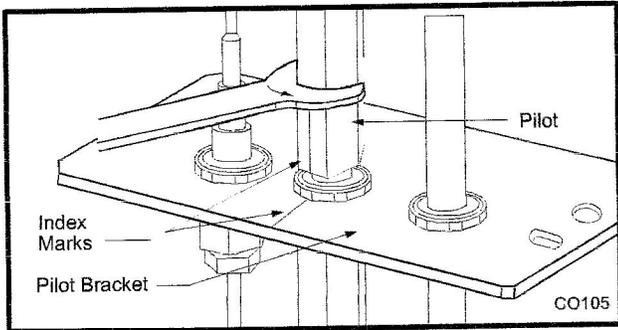

Fig. 53 Remove pilot hood. (Your pilot may have a different appearance.)
- Loosen pilot hood turning counterclockwise using a 7/16" wrench. (Fig. 53)